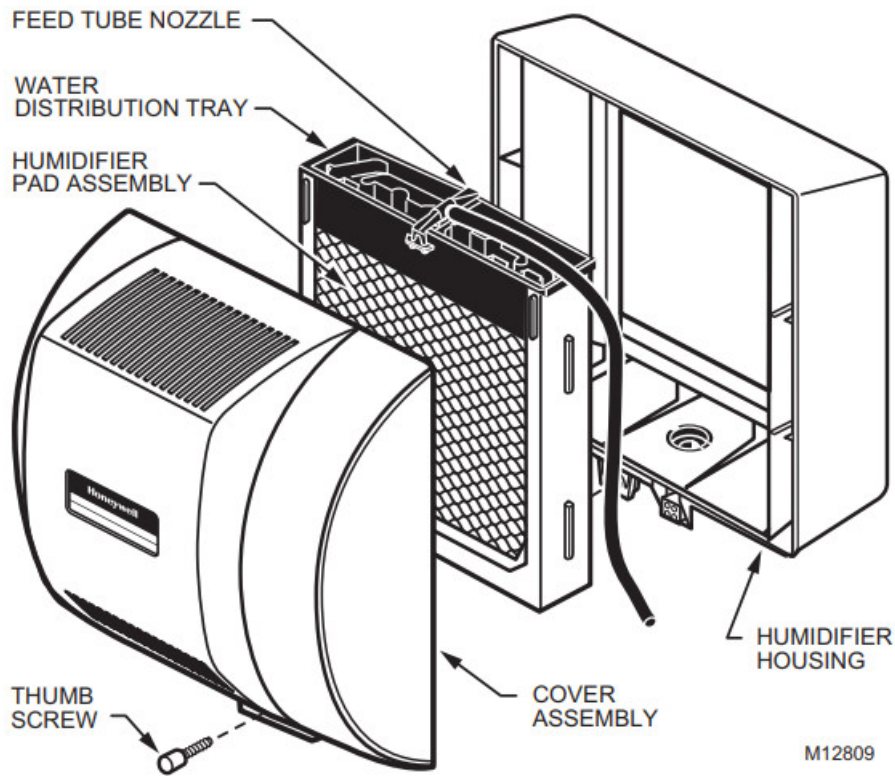

Fig. 3. Humidifier components.
4. Remove the humidifier pad assembly by grasping the top of the tray and pulling the assembly out of the housing. See Fig. 3.